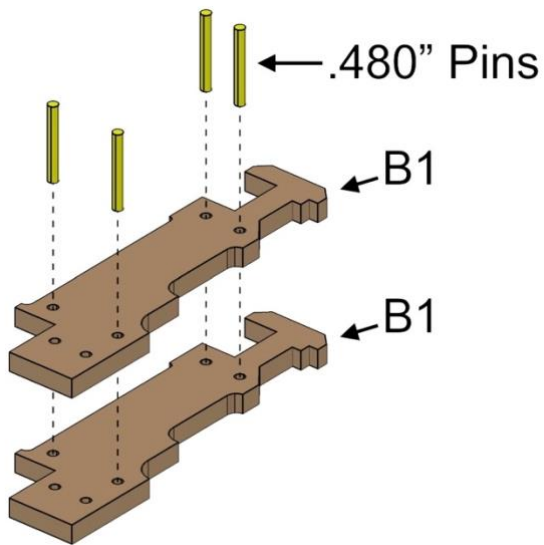

Fig. 5
- Align parts exactly as shown in Fig. 5.